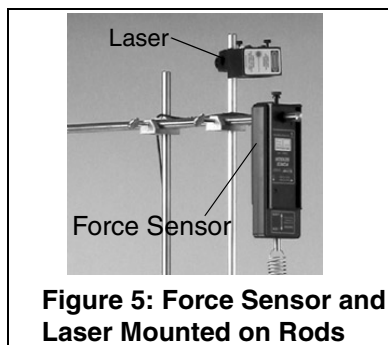

Figure 5: Force Sensor and Laser Mounted on Rods
5. Use the center hole in the Force Sensor to slide the Force Sensor over the horizontal rod (Figure 5).